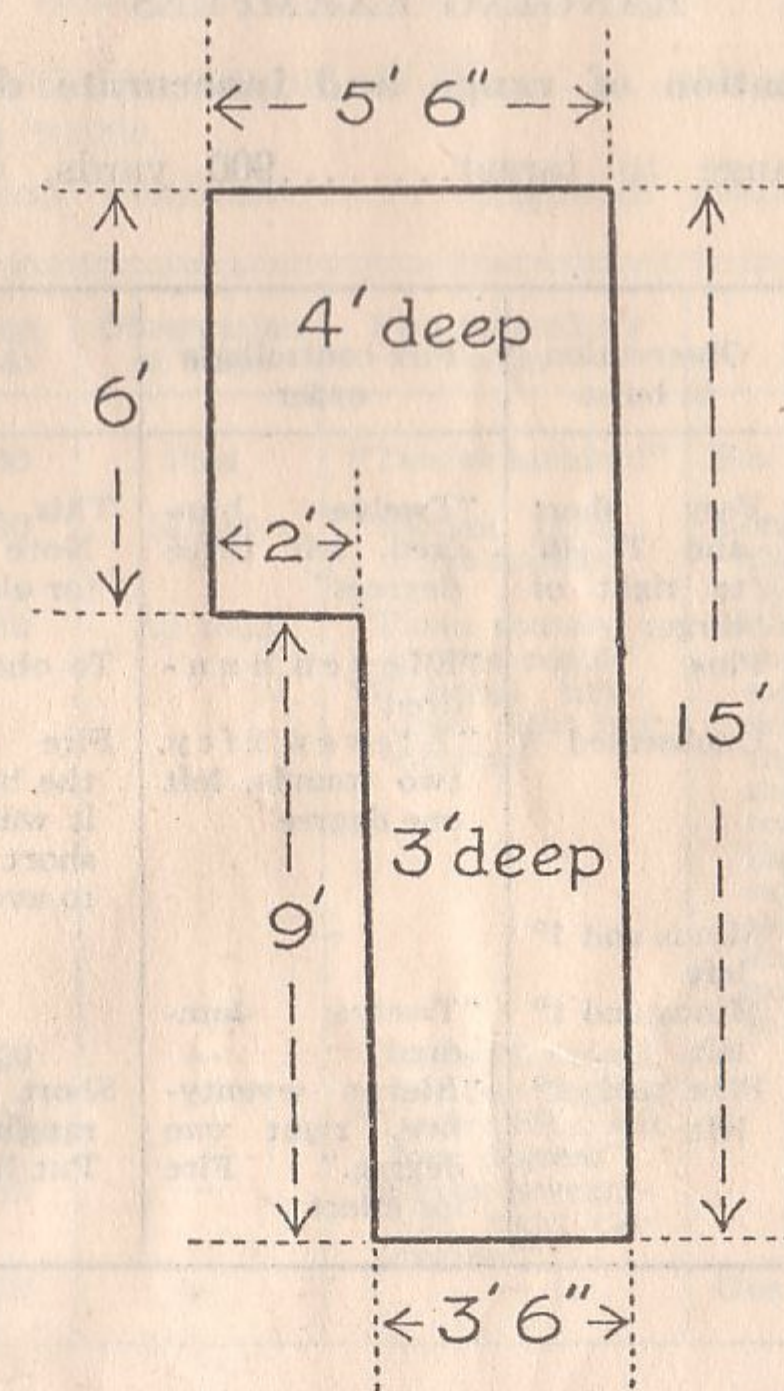

Fig. 3
2. Details of 1st task (Fig. 3).—